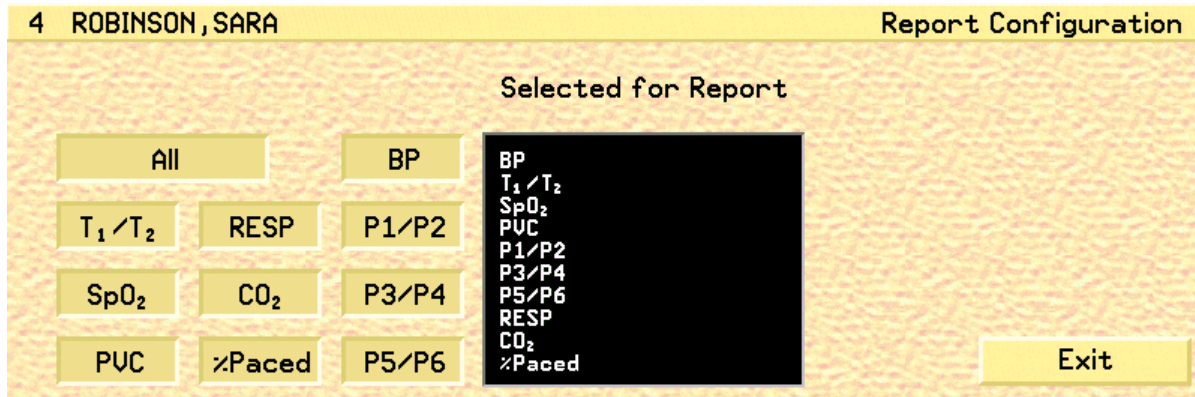

Fig. 82. Report Configuration screen
1. Press **Report** to display the Report Configuration screen (fig. 82).